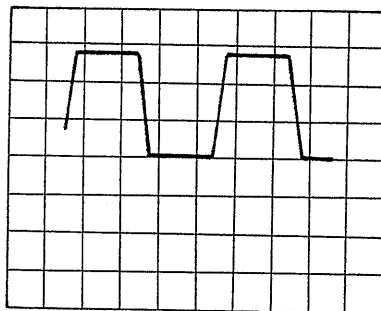

Fig.3
7. The wave form shown in Fig.3 can be moved at both horizontal and vertically by means of the knobs of VERTICAL and HORIZONTAL POSITION.
8. The height of wave form shown in Fig.3 can be changed continuously by means of the knob for SENSITIVITY VARIABLE. At present, 0.5 Vp-p square wave form calibration voltage is under observation. Therefore, when the height of wave form is adjusted to 1cm by means of the said knob, the sensitivity of the vertical axis is calibrated to 0.5 V/cm.